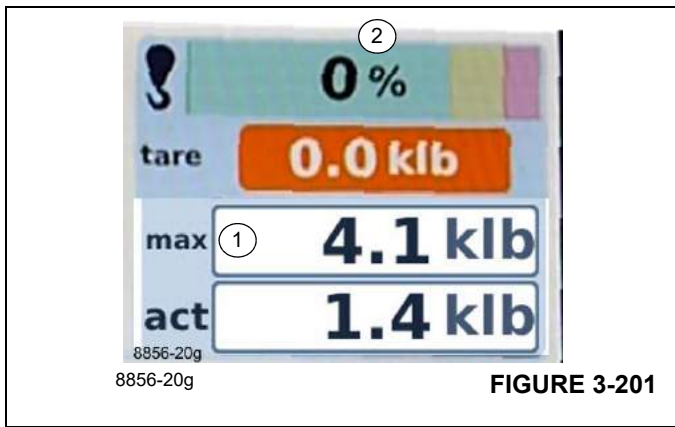

FIGURE 3-201
Display: Maximum load (1), (Figure 3-201) in metric tons (t) or kilo-pounds (klbs) for the displayed RCL code
Degree of utilization = 100 x current load/maximum load (2), (Figure 3-201).